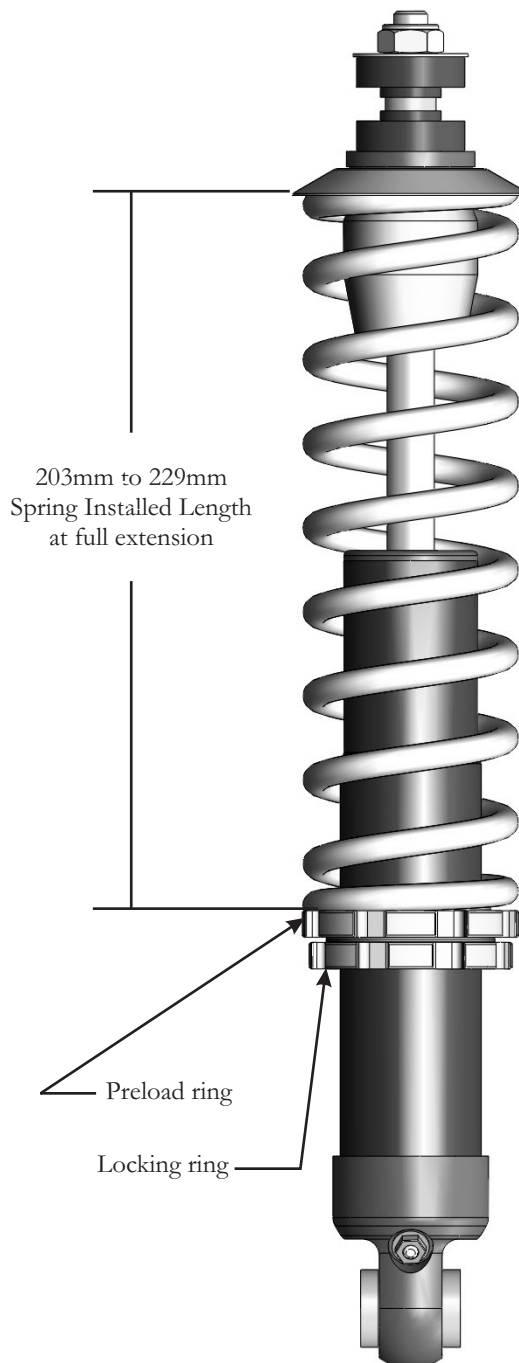

Figure 5
4. Spring pre-load adjustments are made with the supplied preload adjusting wrench by first loosening the lower locking ring, then adjusting the upper preload ring (figure 5). Once the proper preload has been achieved, re-tighten the locking ring against the adjusting ring. With the shock fully extended, the spring installed length must never be adjusted to a length longer than 229mm (9.02") or shorter than 203mm (7.99").